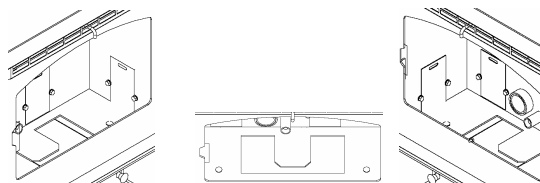

FIGURE 26
- Scrape ash bin into the pedestal ash bin through the opening in the bottom of the firebox or vacuum to remove ashes (see Figure 26).
- Interior Chambers** – Four ash doors in the firebox in the P23 can be removed for periodic cleaning (refer to figure 26). These doors allow access to the chamber surrounding the firebox.